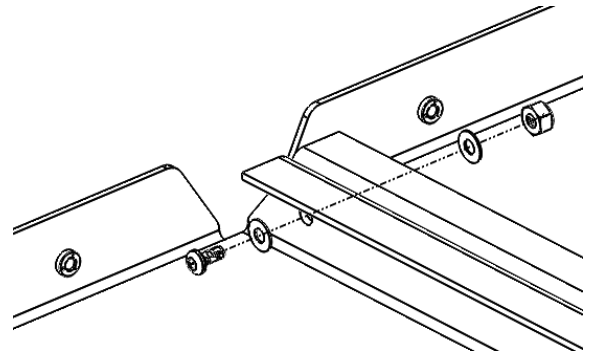

*Figure 17: Studded Inserts Installed into Roof Tracks*
13. Insert 4 Studded Inserts into each side of your track system in preparation of your roof rack as shown in Figure 17. Slide them down the track to the approximate mounting bracket locations.